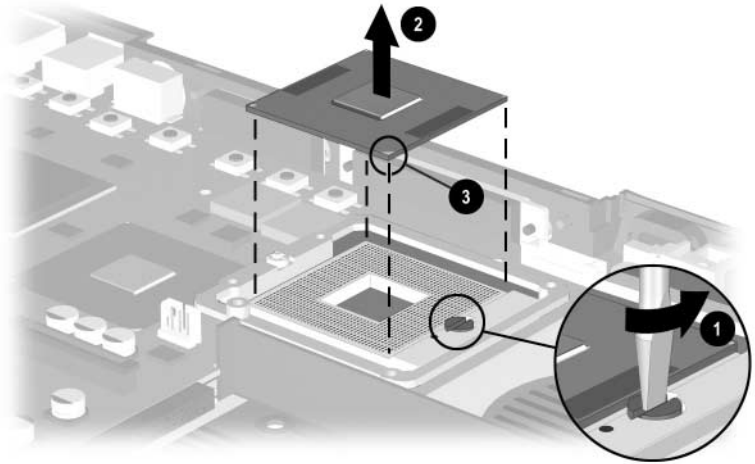

Figure 5-30. Removing the Processor
2. Use a flat-bladed tool to turn the processor locking screw ❶ one-half turn counterclockwise (Figure 5-30).
3. Lift the processor straight up and remove it ❷.